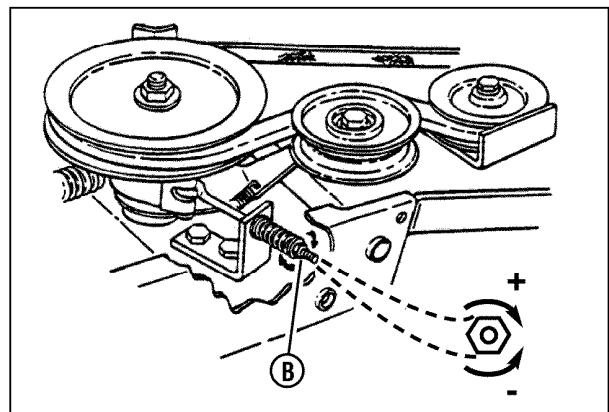

Figure 33: Adjusting blade brake tension
3. If the dimension is greater than 3-1/4", rotate the brake adjustment nut (A, **Figure 33**) clockwise to increase brake tension. If the dimension is less than 3", rotate the nut counter-clockwise to decrease brake tension.